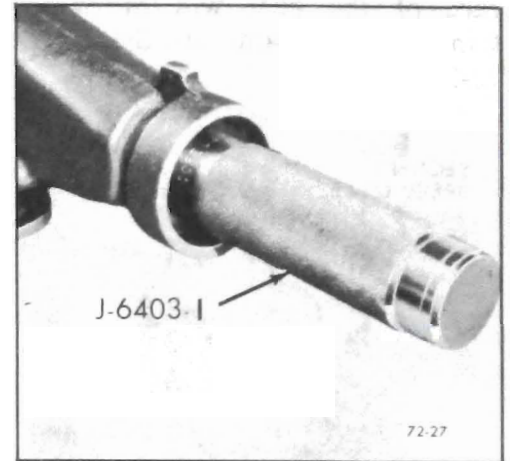

Figure 72-326 Installing Rear Bearing Retainer Bushing
1. Install rear bearing retainer bushing, using Tool J-6403-1. See Figure 72-326.